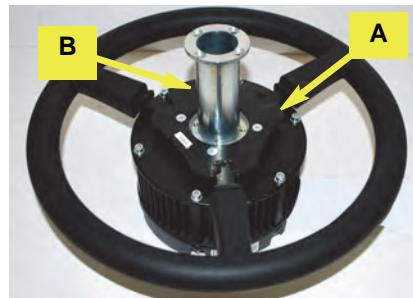

Figure 1a: Shaft adapter installation
- Place the VSi steering wheel **A** on a clean surface with the wheel facing up. Insert shaft adapter **B** into steering wheel **A** (Figure 1a).
Facing the one-inch tabs of bracket **EM** toward the right door, set the bracket so that (Figure 1a):
Using self-drilling screws **EJ** or **EK** (depending on the floor thickness - see warning above) fasten bracket **EM** to the cab floor (Figure 1a). Ensure the bracket is level.
Figure 1a with inset: ECU mounting bracket location/installed